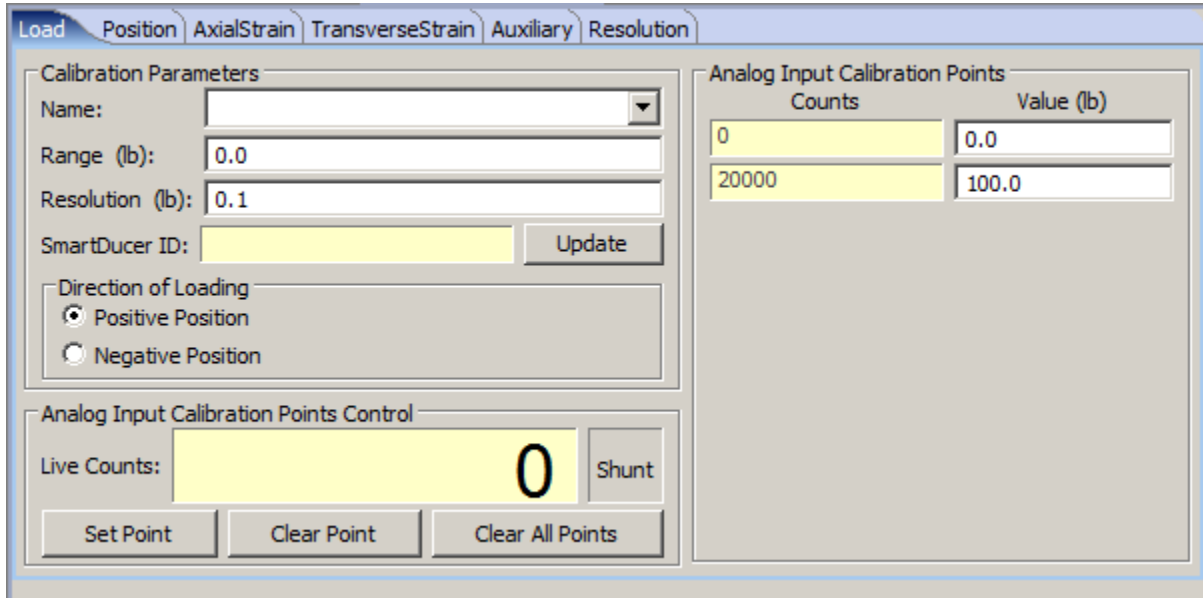

Figure 11: Load Calibration Setup Window
- 3.3.7 Click the Clear All Points button to start the calibration process. The points shown on the upper right side of the screen will disappear. The box showing the Live Counts should be displaying a series of numbers related to the no load Analog input from the load cell. Typically the number is a low value, less than 2000 counts. The box labeled Shunt should be gray, as shown in Figure 11.